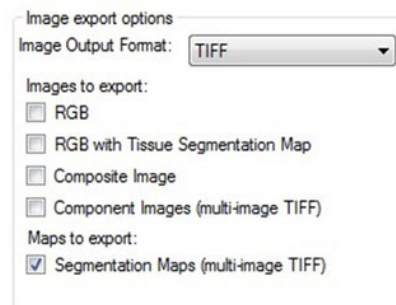

Figure 4.20. Maps to export Segmentation Maps.
4. In the Export step, check the Segmentation Maps (multi-image TIFF). (See Figure 4.20.)